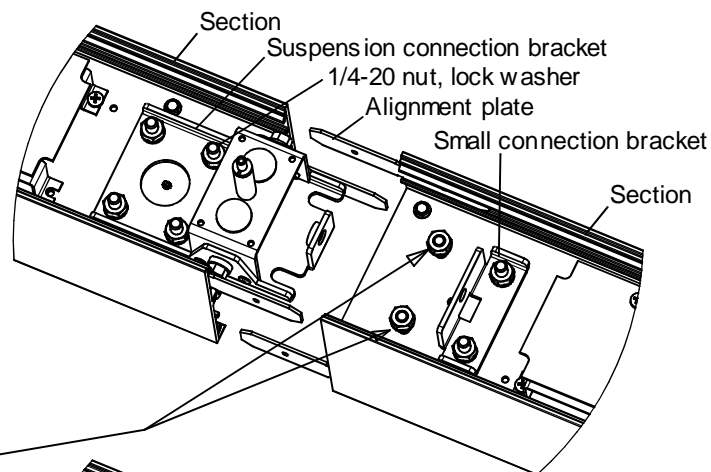

Fig. 1
2. Slide alignment plates (x4) (if not installed) into position (two in each section in diagonal order) so they span the joint between sections. They may need to be carefully tapped with a hammer (Fig. 1).
3. Install suspension connection bracket (if not installed) on one section of the fixture and small connection bracket on another section using supplied 1/4-20 nuts and lock washers (x6) (Fig. 1).
4. Place 1/4-20 nuts and lock washers (x2) loosely onto studs (Fig. 1).